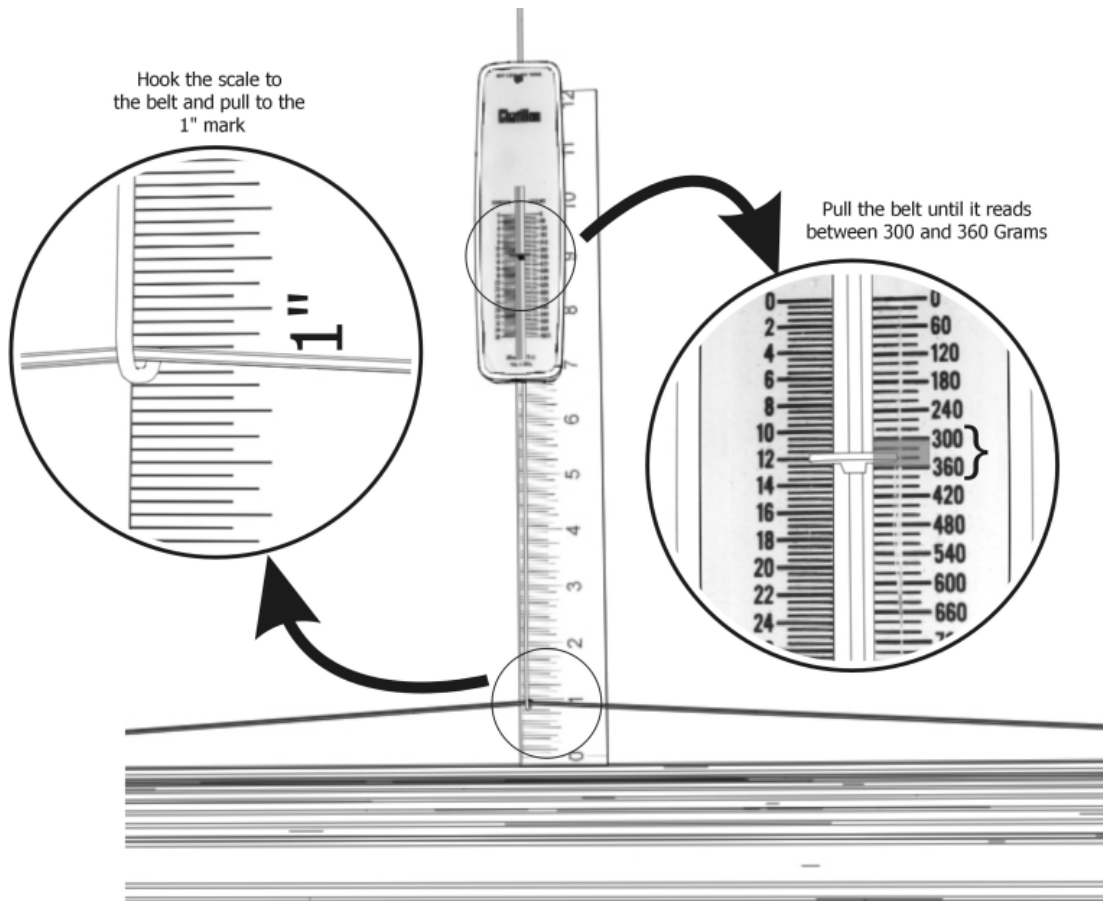

Fig. 5-10 Pulling the belt to 1", and measuring 300 to 360 Grams
13. Pull the fish scale to the 1” (One inch) mark on the ruler. The reading on the fish scale should read from 300 to 360 Grams. See *fig 5-10*.